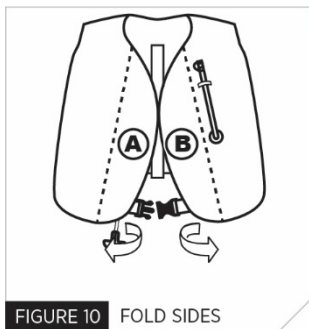

FIGURE 10 FOLD SIDES
1. Fold sides (A) and (B) outward along dotted lines. Secure with hook and loop (Fig. 10).